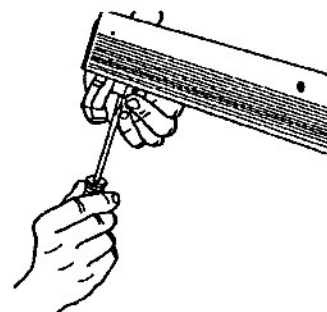

Fig. C-6
a. Raise the outfeed end of the rip fence and use a medium screwdriver to loosen the two screws attaching the fence rest just enough to move it with firm pressure. See Fig. C-6.
d. Unlock the fence handle and carefully raise the fence. Tighten the fence rest's screws, as demonstrated in Fig. C-6.